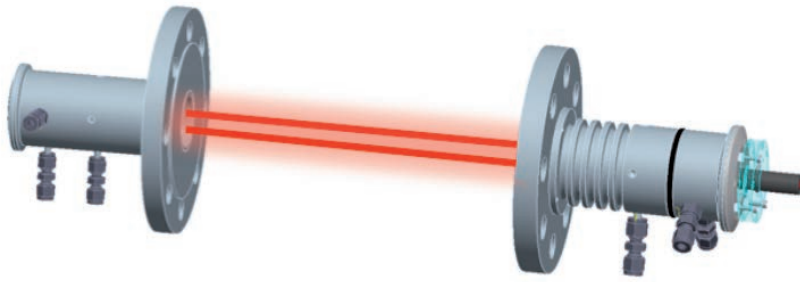

Figure 21 Fitting of laser pointer/reflective mode target to TDL head mounting.
- 1 Attach laser pointer/reflective target assembly to TDL head flange (see Figure 21 on page 50).
<p>1 Attach laser pointer/reflective target assembly to TDL head flange (see Figure 21 on page 50).</p>